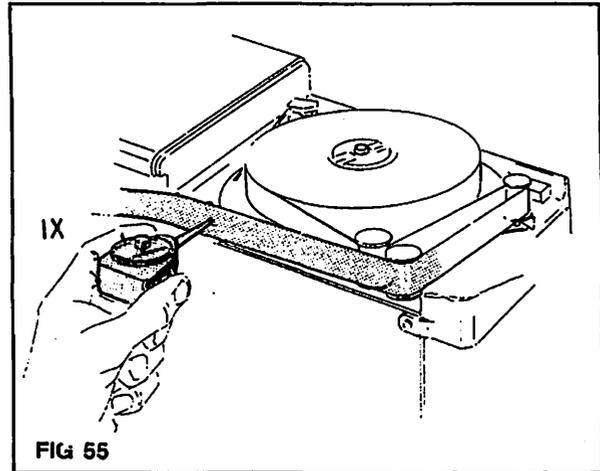

FIG 55
- check that the force needed for unwinding the tape does not exceed 0,49N (see FIG 55).